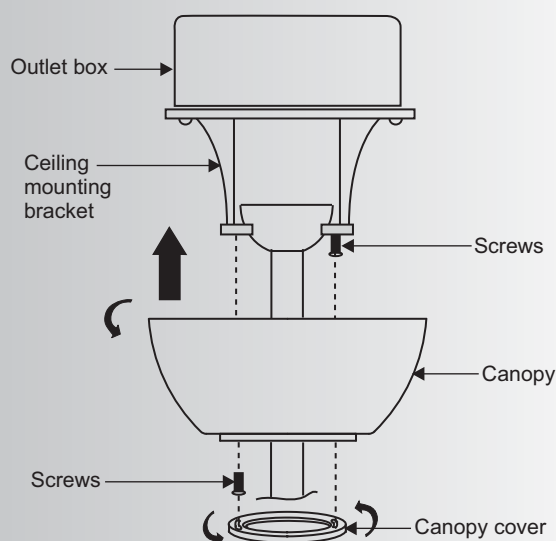

Fig. 13
Step 2. Slide the canopy up to the mounting bracket and place one of the key hole slots over the mounting screw on the mounting bracket. Rotate the canopy until the screw head locks in place at the narrow section of the key hole. See figure 13.
NOTE: Adjust the canopy screws as necessary until the canopy and canopy cover are snug. (Fig. 13)